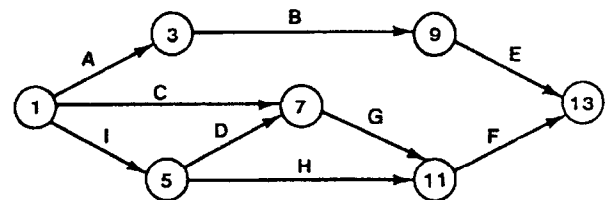

Figure G-3. CPM network
c. *CPM Logic.* The logic behind CPM networks is that an activity (arrow) leaving an event (circle) cannot begin until all activities heading into that event are completed. Figure G-3 shows that activity B cannot begin until activity A is completed. It also indicates that activity G cannot start until activities C and D are finished and that neither activity D nor H can start until activity I is completed. Activities C and D are concurrent because they can end at the same event, and activities D and H can start at the same time.